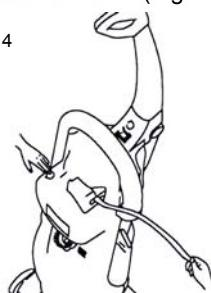

Fig. 3
1. Insert the floor brush into its location, in the direction of the arrow. (Fig. 3)